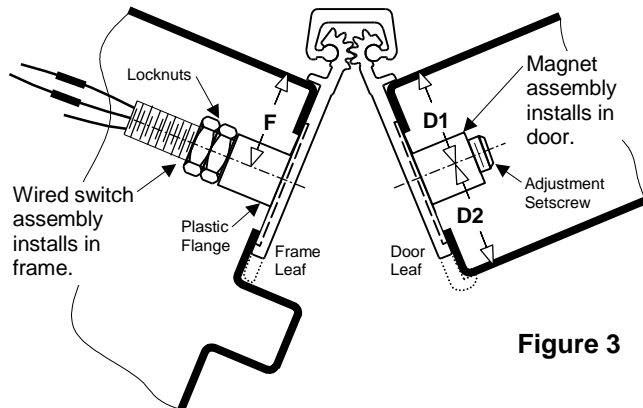

Figure 3
2. Locate the wired switch assembly. Peel the adhesive liner from the face of the flange. Attach it in the counter bore on the back of the hinge leaf that will be mounted to the *frame*. See Figure 3.
Peel the adhesive liner from the face of the flange. Attach the magnet assembly in the counter bore on the back of the hinge leaf that will be mounted to the *door*. See Figure 3.
2. Connect the system wiring to the appropriate leads of the switch. See Figure 3. Insulate the bare end of any unused wires.